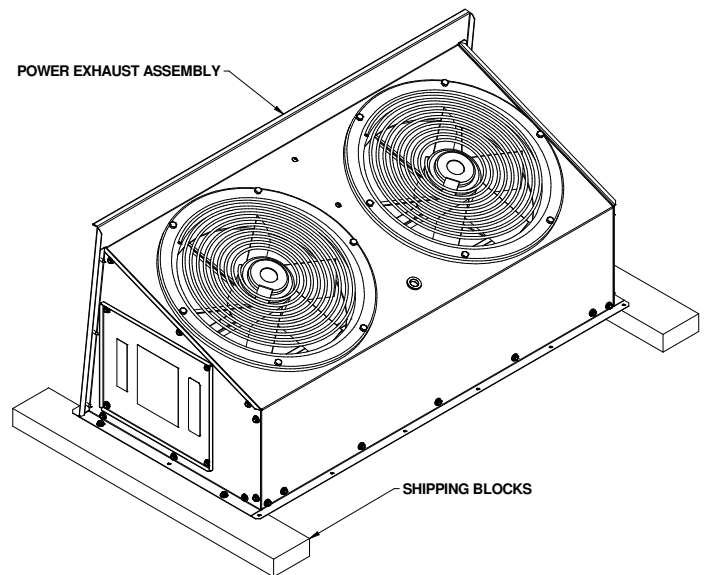

FIGURE 1 - SHIPPING BLOCK
4. Remove the shipping blocks from the bottom of the accessory horizontal power exhaust. (Fig 1)